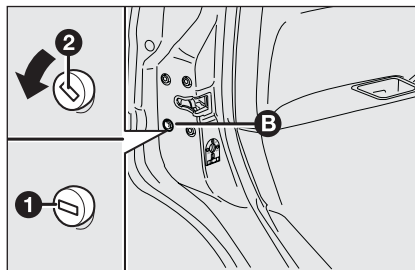

fig. 1
- ☐ insert the ignition key in lock **B**-**fig. 1**